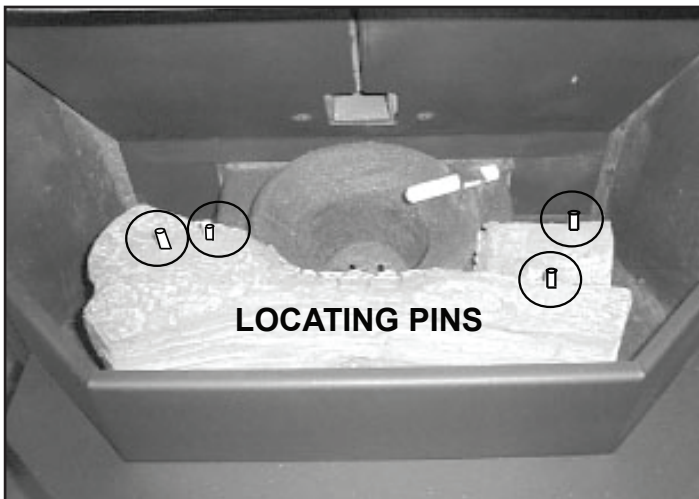

Figure 23.1
1. Place the front log in first as shown in **Figure 23.1**.